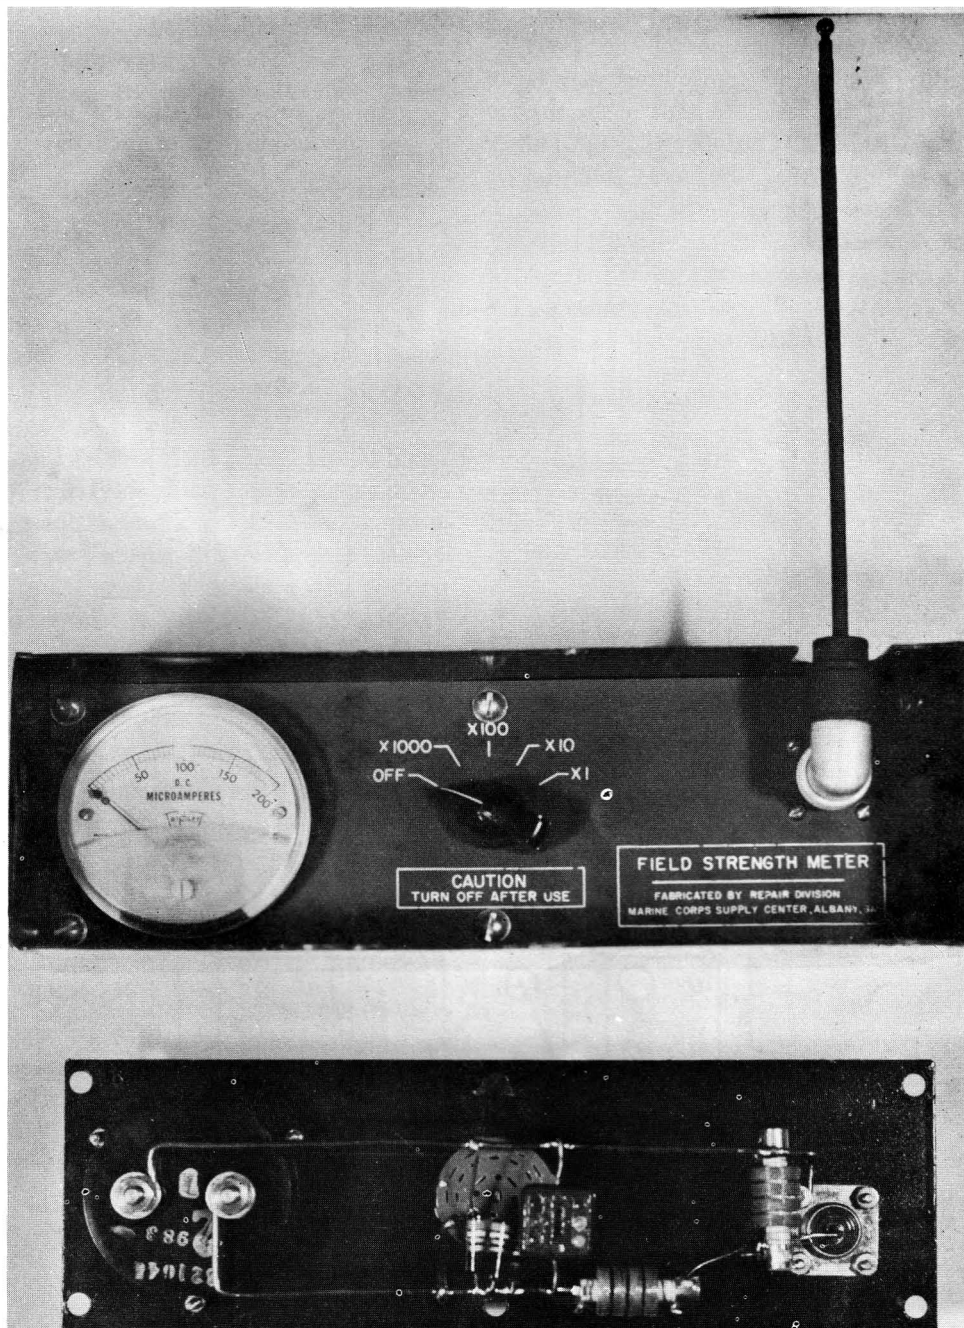

Figure 2-2. Field Strength Meter.
b. Radio frequency output indications of the T-47/ART-13 and the RT-178/ARC-27 transmitters may be obtained by utilization of the field strength meter supplied with the AN/MRC-35A. (See figure 2-2.) The